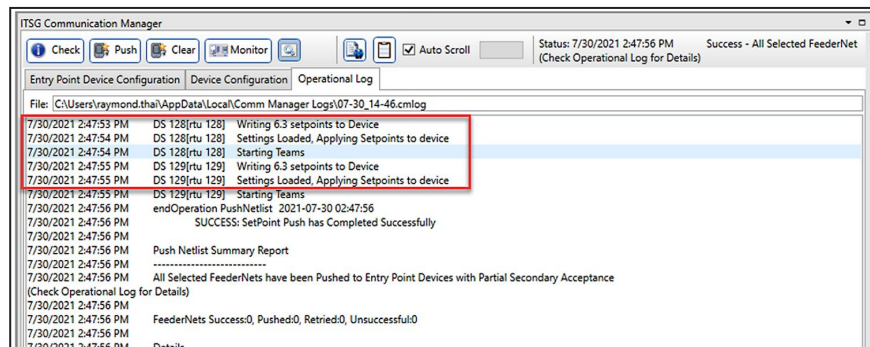

Figure 15. The Operational Log tab showing setpoint files loaded and applied.
- STEP 3.** Go to the **Operational Log** tab and check the log to make sure the settings are being loaded and applied to the devices. See Figure 15.